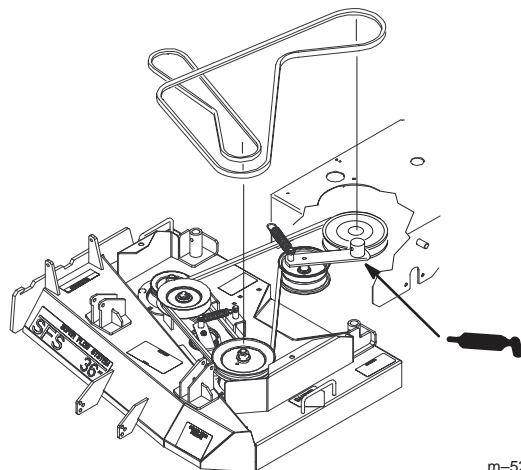

Figure 31
2. Grease the fitting on the PTO belt idler arm pivot (Fig. 31).